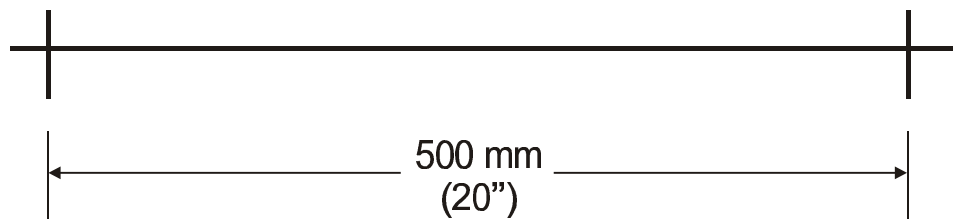

Figure 6-2 Speed Measurement Test Line
3. Trace a test line, drawn in the X-axis direction, 500 mm long (see Figure 6-2).